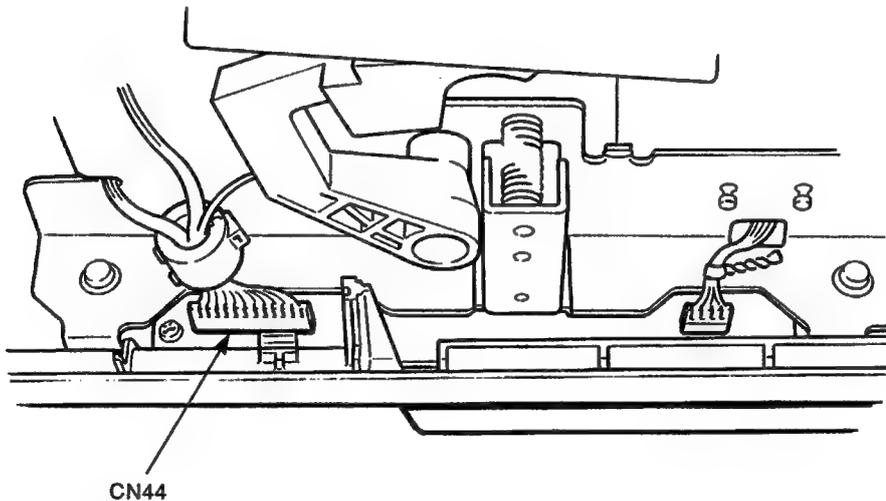

Figure 3-27 Connector CN44
1. Disconnect CN44 from the connection board (see Figure 3-27).